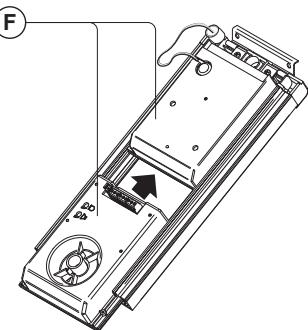

Fig. 6
6. Insert the modules **(F)** (Fig. 6) according the required configuration;